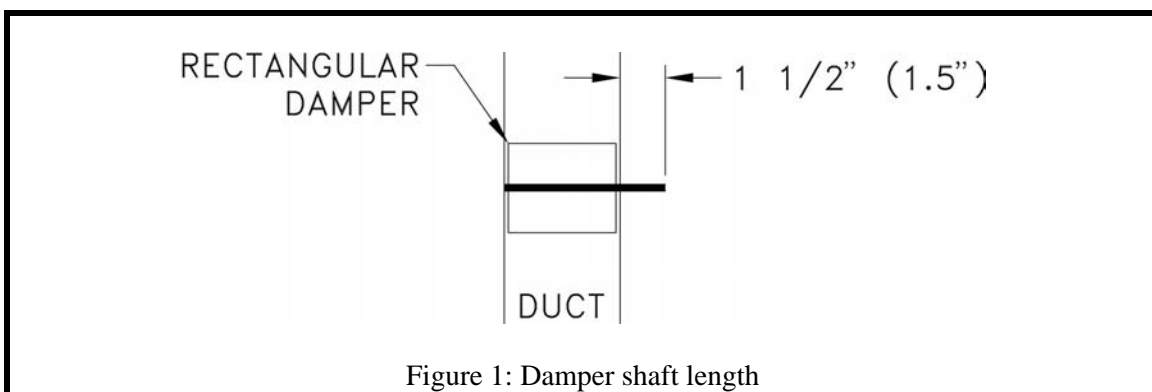

Figure 1: Damper shaft length
- Cut the damper shaft to 1½ inch long (Figure 1).